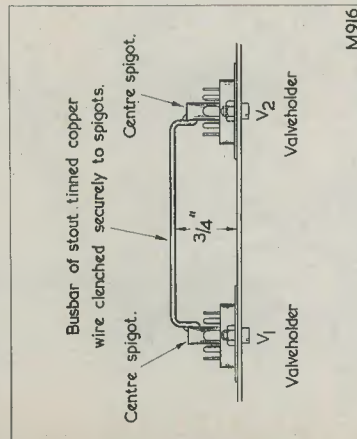

Fig. 5. Side view, showing how the busbar is fitted between the centre spigots of V_1 and V_2
The coil, L₁, is also home-constructed and consists of 100 turns of 32 s.w.g. enamelled wire wound on a 1/4 in former, as shown in Fig. 5. The coil length is 3/4 in and it may have to be wound in two layers, one on top of the other. The former is fitted with a dust iron core.
30. With stout, unsleeved, tinned copper wire, form a busbar between the centre spigots of V_1 and V_2 valveholders in the manner shown in Fig. 5. Clench the wire securely to the centre spigots and solder at the V_2 spigot only.